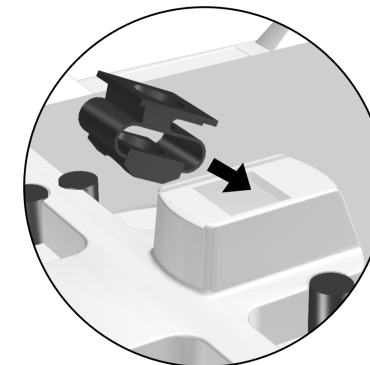
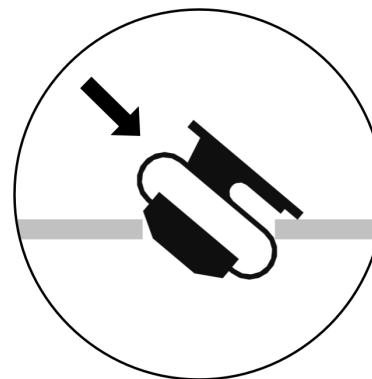

Figure 3
Figure 4
2.0 – Insert the accessory receptacle into the opening (See Figure 3). Place the open end of the top flange around the hole edge from above. Angle the receptacle through the hole. Slide the receptacle back until the flange lip snaps into the hole. (See Figures 4 and 5)